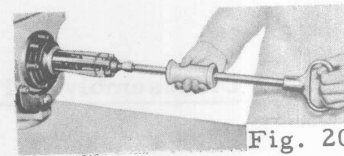

Fig. 20
- ☒ Bolt the front pump to the transmission case with cap screws. Install the oil seal remover (Fig. 20). Pull the front seal from the pump body.